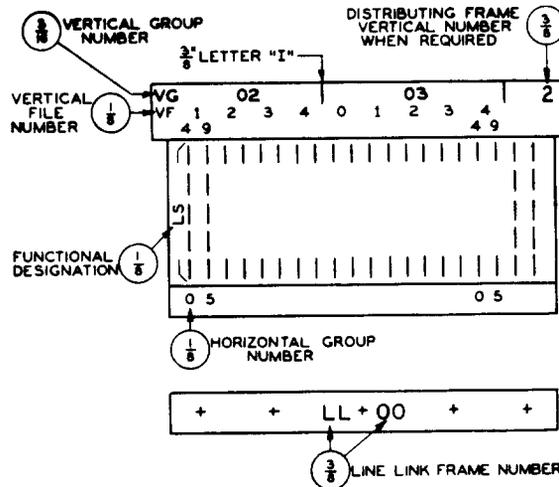
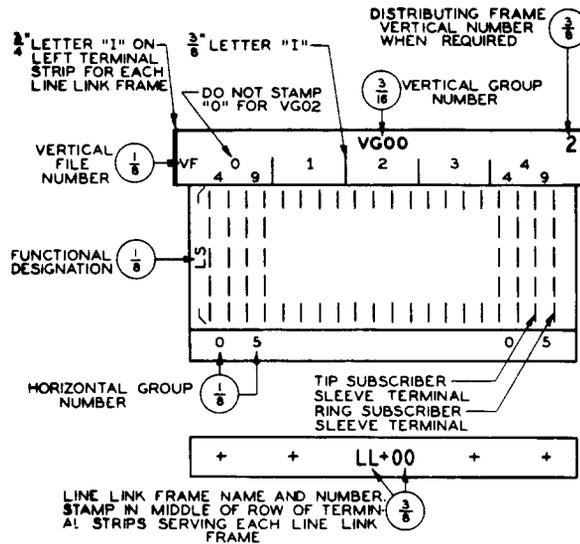

Fig. 17 — Terminal Strips — 268C and Similar Types — Subscriber Lines, Sleeve Leads (One Terminal per Circuit) — No. 5 Crossbar MDF
Fig. 19 — Terminal Strips — 268C and Similar Types — Subscriber Lines, Sleeve Leads (Two Terminals per Circuit) — No. 5 Crossbar MDF
(2) **Terminal strips, as required for the sleeve leads** for each line link frame, are arranged on one shelf. The line link frame number shall be stamped in the middle of the group of terminals serving the respective frames as shown in Fig. 17, 18, 19, and 20. Fig. 17 and 18 show one sleeve terminal per circuit for part of the circuits on each line link frame. Fig. 19 and 20 show two sleeve terminals per circuit for all of the circuits of a line link frame. Only the required number of sleeve terminals are provided and stamping may be required for one or two sleeve terminals for some or all of the circuits of a line link frame. Actual stamping shall agree with applicable portions of Fig. 17, 18, 19, and 20.